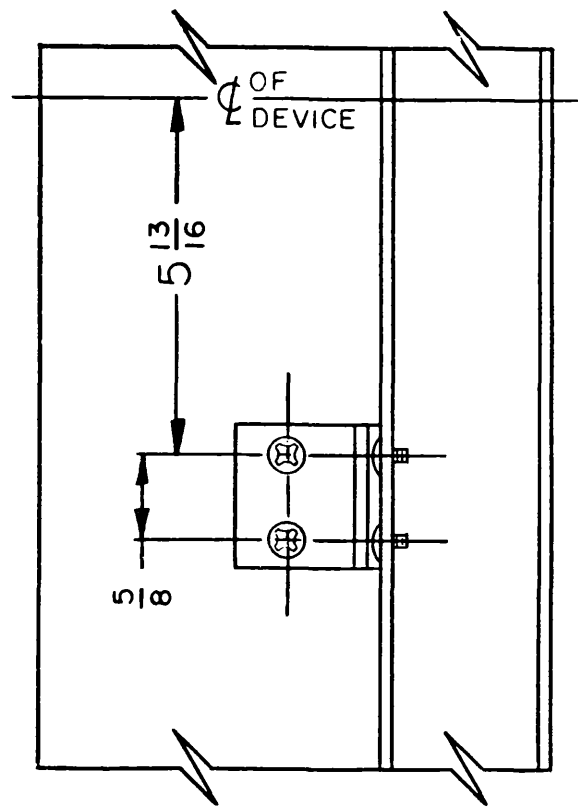

FIG. 1
- (1) TO LOCATE THE TOP MOUNTING HOLE FOR THE STABILIZERS MEASURE $5 \frac{13}{16}$ " DOWN FROM THE CENTERLINE OF THE STRIKE OR DEVICE. MEASURE DOWN ANOTHER $\frac{5}{8}$ " FOR THE LOWER HOLE. (FIG. 1)
- (2) FOR LOCATING THE CENTERLINE ON THE DOOR, MEASURE DOWN $5 \frac{13}{16}$ " FROM THE CENTERLINE OF DEVICE. THEN MEASURE DOWN $\frac{5}{8}$ " FOR THE LOWER HOLE. (FIG. 1)